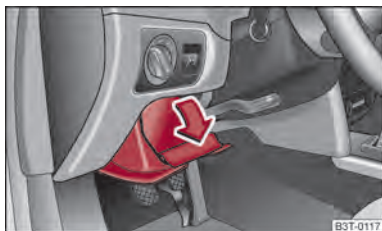

Fig. 94 Dash panel: Storage compartment on the driver's side
- The storage compartment is opened by lifting the handle and folding open in the direction of arrow ⇒ fig. 94.